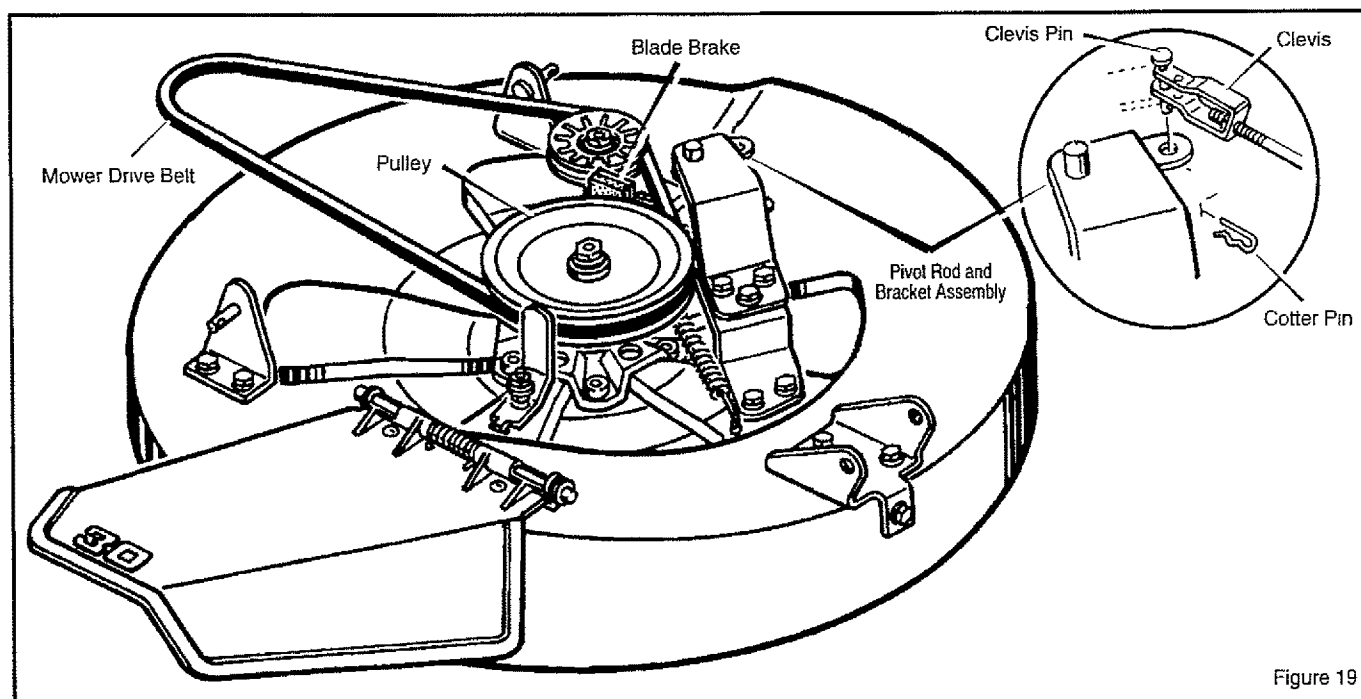

Figure 19
- 6 If an adjustment is needed, disconnect the **clevis** from the **pivot rod and bracket assembly** (Figure 19). Turn the **clevis** clockwise to decrease the free movement of the **attachment clutch**. Turn the **clevis** counterclockwise to increase the free movement.